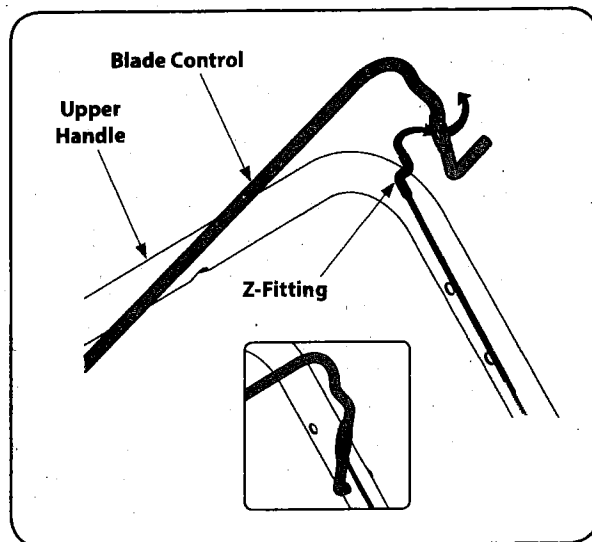

Figure 3-6
1. To make it easier to attach the Z fitting, temporarily remove the left side of the blade control as shown in Figure 3-6.
2. Hook the Z end of the brake cable into the control from the inside to outside. See Figure 3-6.